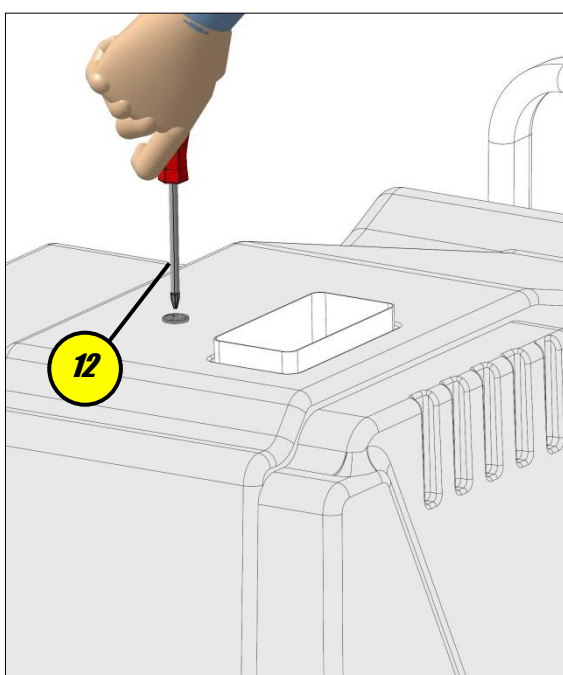

Figure 09
- h. Screw the steam gun to the hose, position the rubber protection and close the steam outlet by pressing the relative button on the main panel. Replace the machine's protective cover and replace the placeholder screw 12 (fig.09). Follow the steps in section 8e to store the machine properly.